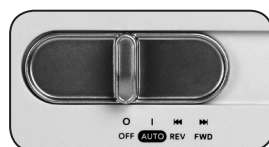

FIGURE 2
- Using the switch located on the unit, select one of the following settings by sliding the switch either left or right. (FIGURE 2)